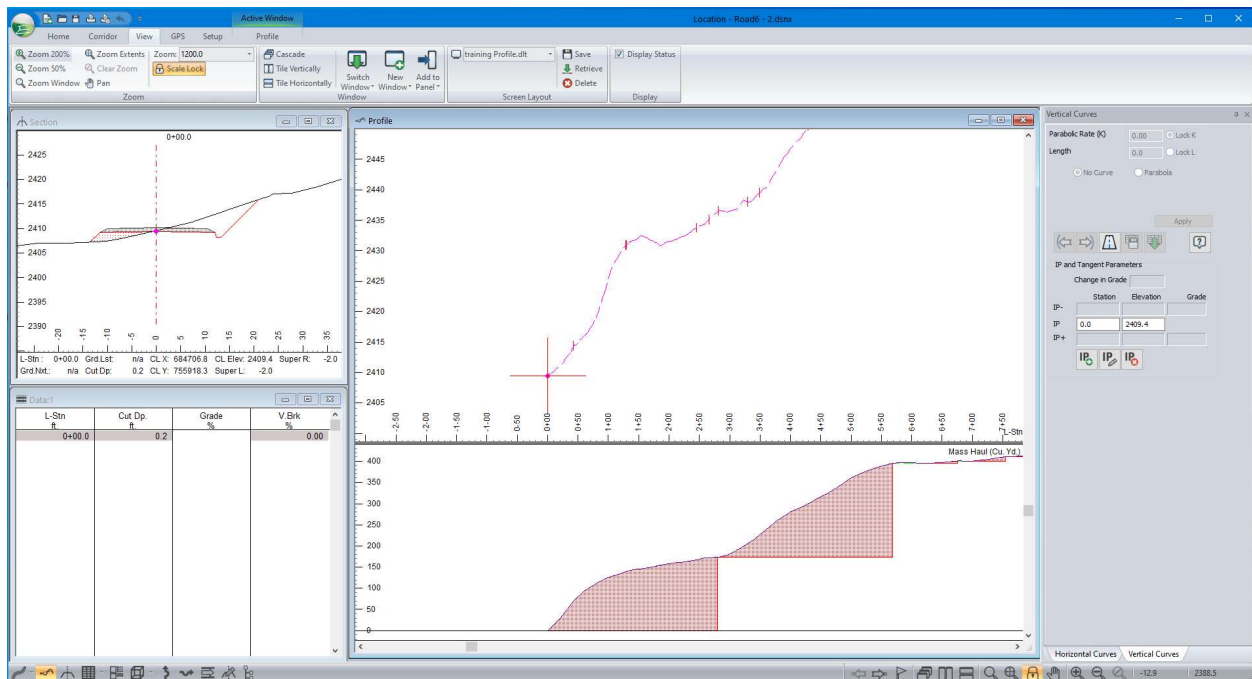

Figure 7-1: Location Design without Vertical Alignment
2. Use the **Screen Layout** drop-down to open **Training** folder, and select **training Profile.dlt**. This will set up your screen to look like Figure 7-1 below: